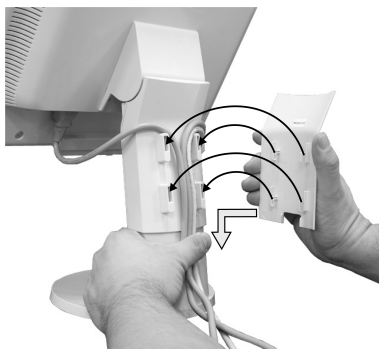
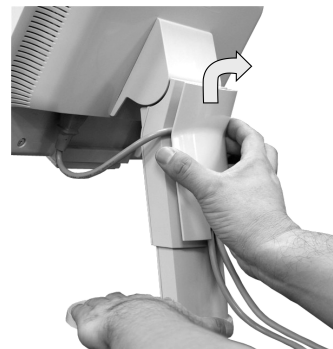

Figure D.1
Figure D.2
7. Hold the all cables firmly and place the cable cover onto the stand (**Figure D.1**). To remove the cable cover, lift the cover off as shown in **Figure D.2**.